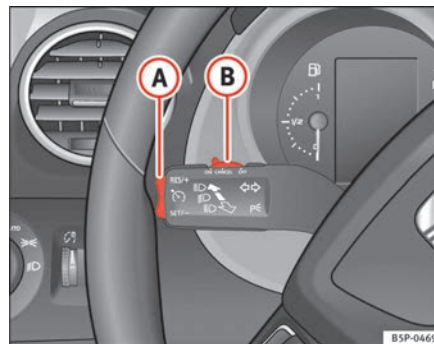

Fig. 146 Indicator and main beam headlight lever: switch and rocker switch for the cruise control
- Push the switch ⇒ fig. 146 **B** to the left to **ON**.